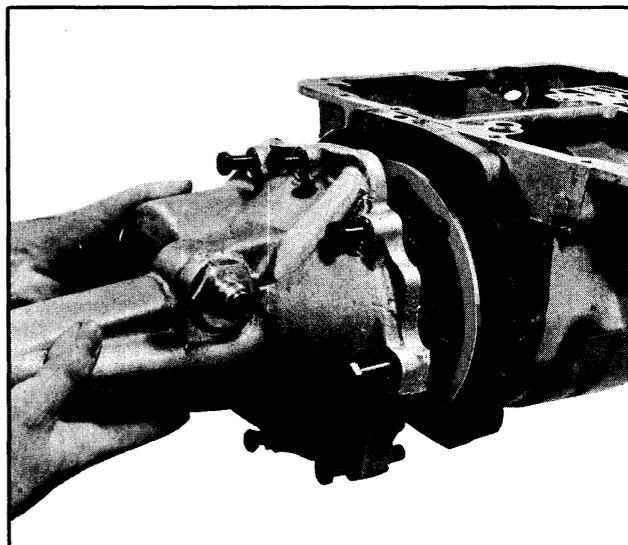

Fig. 3-36 Removing Extension Housing
2. Remove the 8 rear extension housing attaching bolts, then remove the housing and gasket. (See Fig. 3-36)